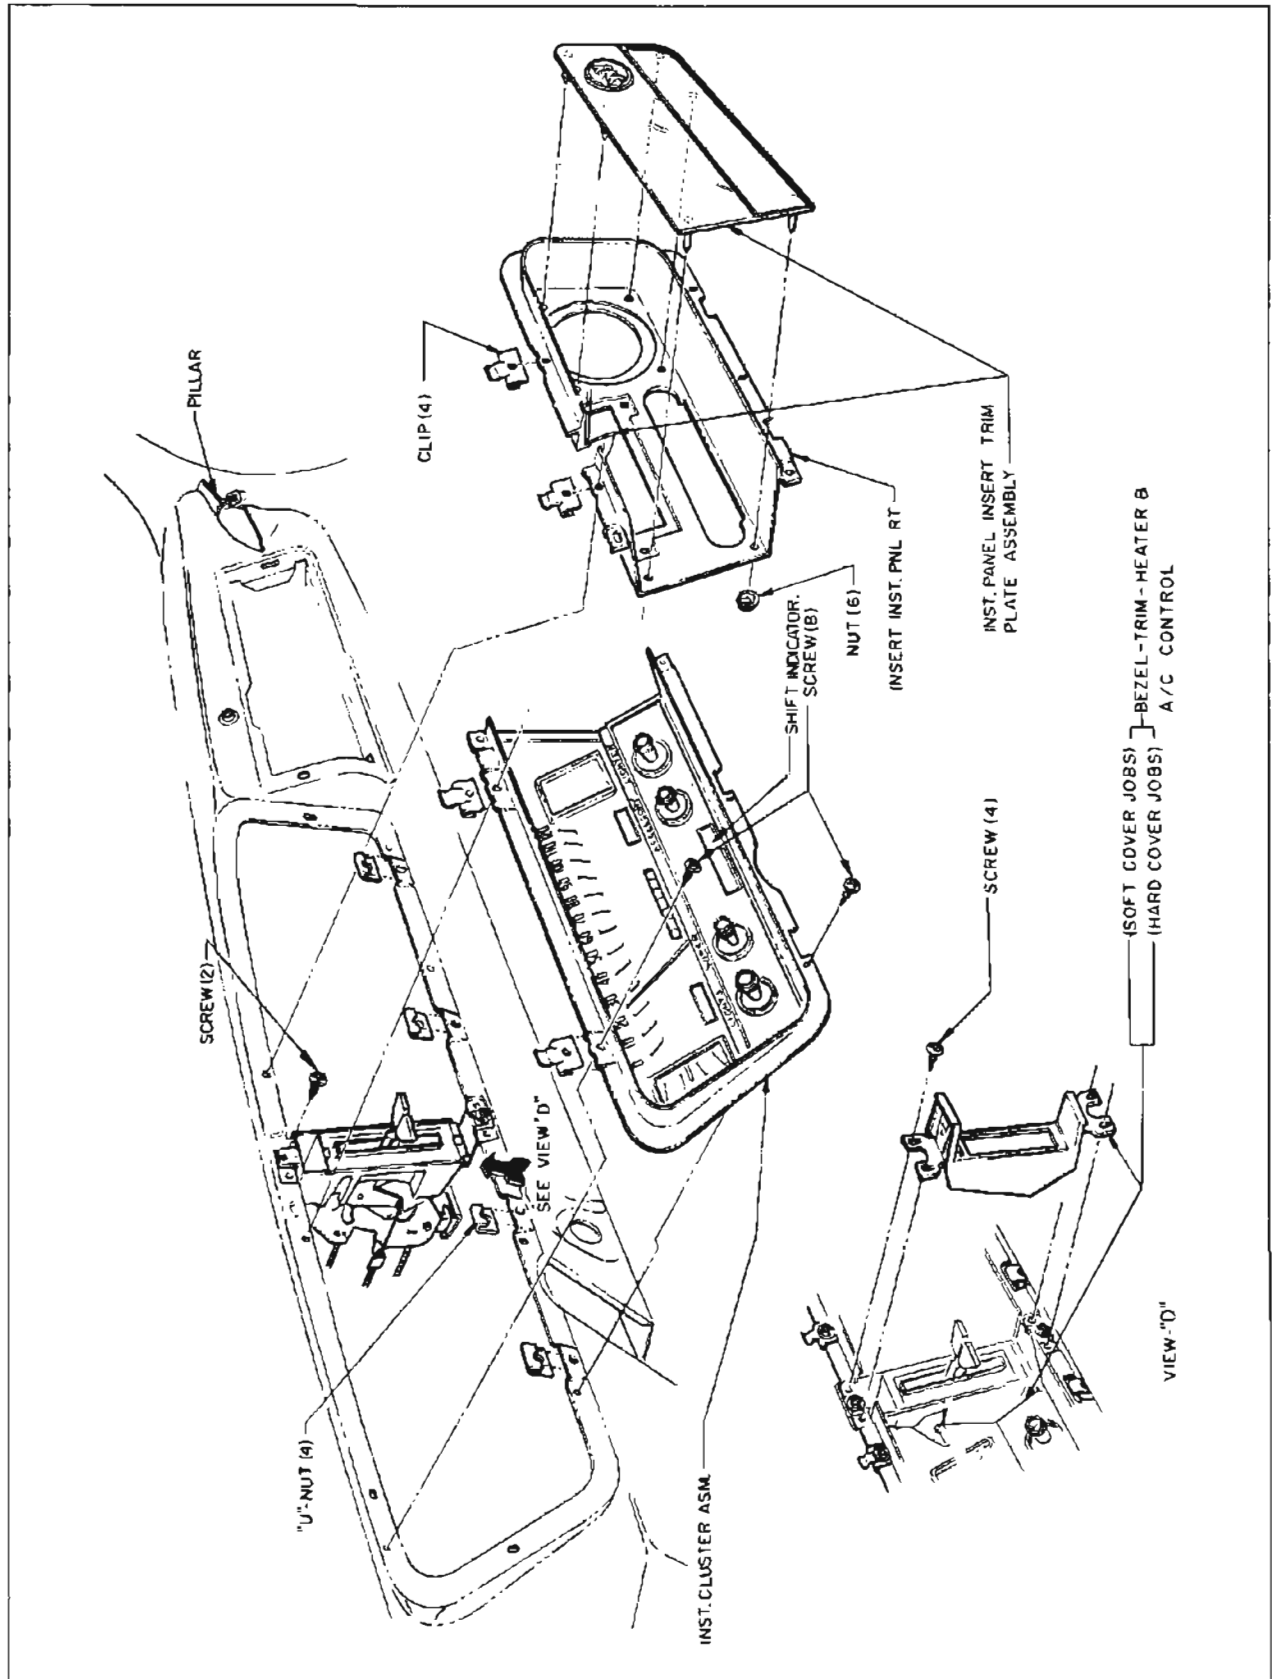

Figure 10-64—Instrument Panel and Right Insert Installation
2. Remove heater control trim bezel by removing four screws from corners. See Figure 10-64.